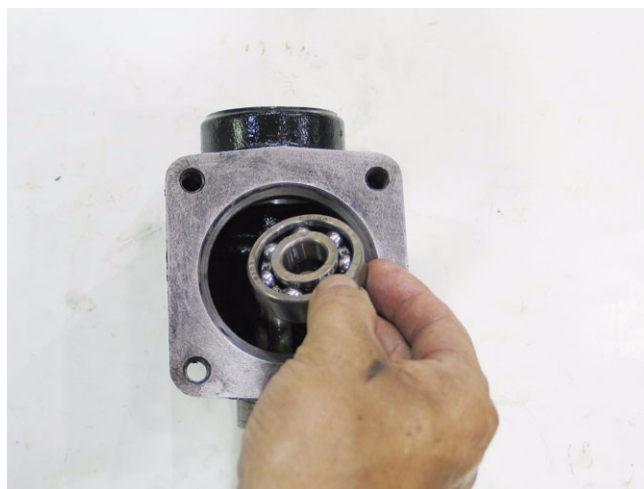

Figure 8.5
- 8.5. The bearing that supports the top of the kingpin shaft can also be pushed out of the kingpin housing with light pressure. See Figure 8.5.